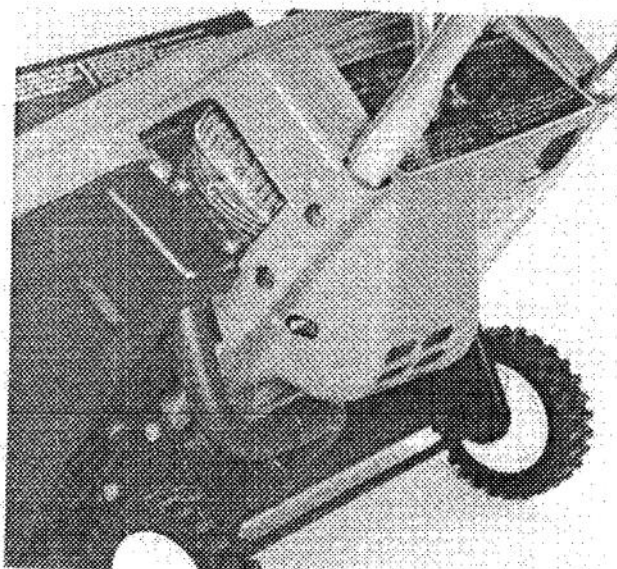

Figure 4
3. Secure both sides of handle in place with four machine screws (Fig. 4). Tighten screws securely.